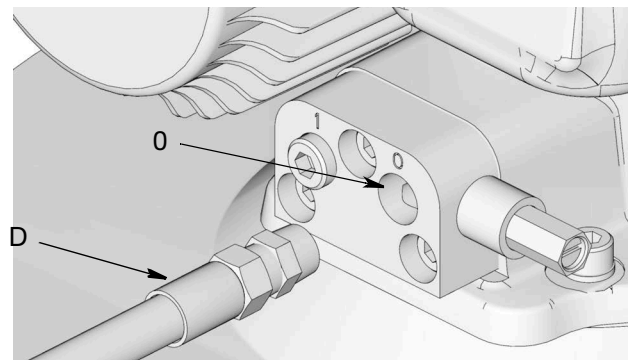

FIG. 54: Lubricant Outlet Connection
3. Disconnect Timer/Controller (F) (user supplied, if used).
4. Disconnect High Pressure Lubricant Supply Line (D) to the Lubricant Output Connection (O) (FIG. 54) on the Vent Valve or Manifold.